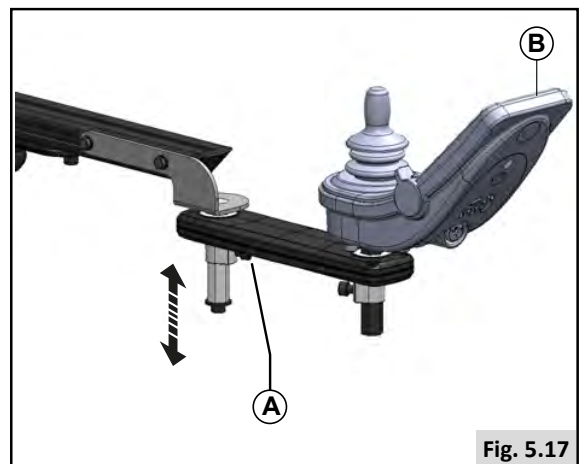
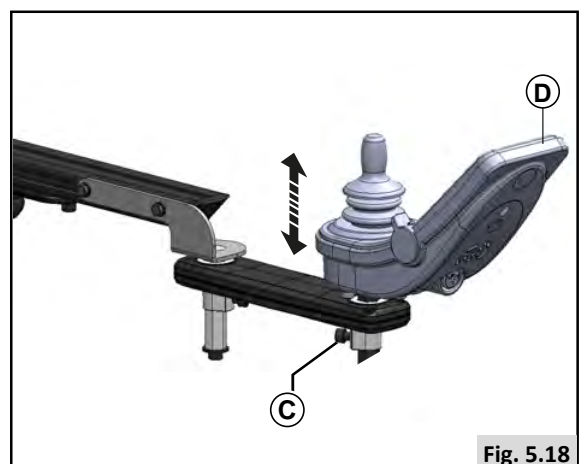

Fig. 5.17
Fig. 5.18
Pre-setting height of the controller (1) (Fig 5.17)
1. Loosen screw (A).
2. Slide controller (B) to desired height.
3. Tighten screws (A).
Pre-setting height of the controller (2) (Fig 5.18)
1. Loosen screw (C).
2. Slide controller (D) to desired height.
3. Tighten screw (C).